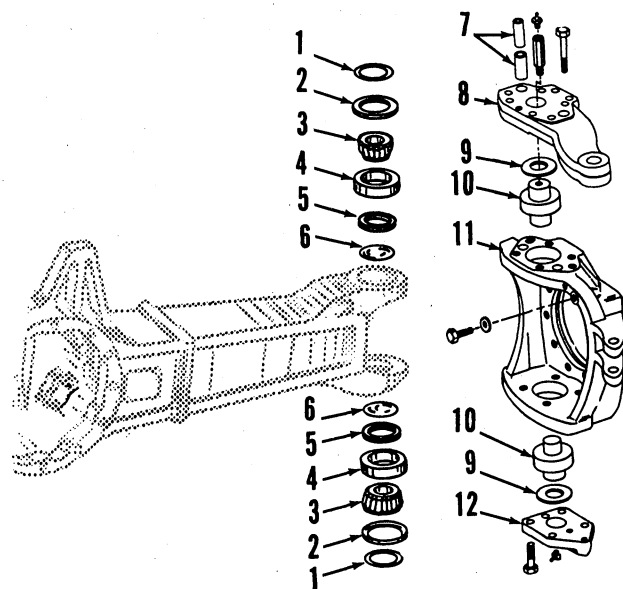
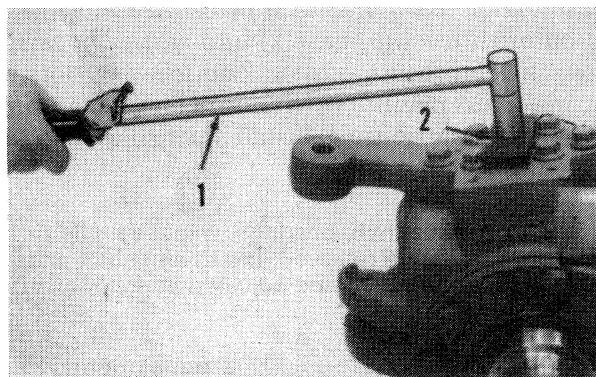

Fig. 23—Exploded view of steering knuckle assembly.
Fig. 23A—Use a spanner bar (2) with a nut welded in the center and a torque wrench (1) to measure torque required to rotate steering knuckle.
13. STEERING KNUCKLE. To service steering knuckle, first drain oil from axle housing. Remove front wheel. Support hub and planetary assembly with a suitable hoist. Remove cap screws securing spindle to knuckle housing, then withdraw planetary assembly with axle shaft. Remove bottom cover (12—Fig. 23), shim washer (9), king pin (10) and bearing (3). Remove steering arm (8) and washer (9), then use a suitable puller to remove upper king pin. To remove bearing cups (4), drive on dust plugs (6).
Check knuckle rolling drag torque as follows: Fabricate a spanner bar (2) with a nut in the center and attach bar to steering arm as shown in Fig. 23A. Then, use a torque wrench to measure torque required to rotate knuckle. Vary thickness of shim washers (9—Fig. 23), if necessary, to obtain rolling torque of 13-16 ft.-lbs. (18-21 N·m). Increasing shim thickness will increase rolling torque and decreasing shim thickness will decrease rolling torque. Be sure upper and lower shims are of equal thickness.
Illustrations for Fig. 23 and Fig. 23A reproduced by permission of Deere & Company. Copyright Deere & Company.